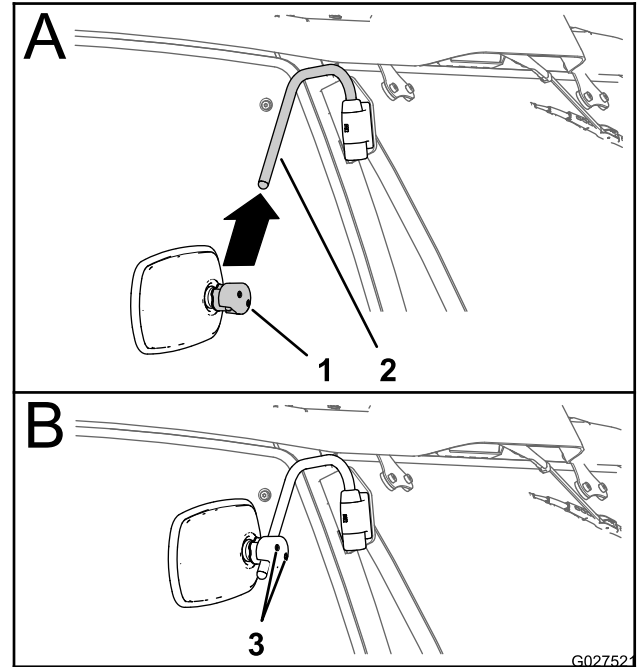

Figure 5
1. Align the mounting clamp of the mirror with the support arm (A of Figure 5).
2. Slip the mirror onto the support arm (A of Figure 5).
3. Tighten the 2 capscrews (5 mm) for the mounting clamp (B of Figure 5) to a **maximum torque** of 300 N·cm (26 in-lb).